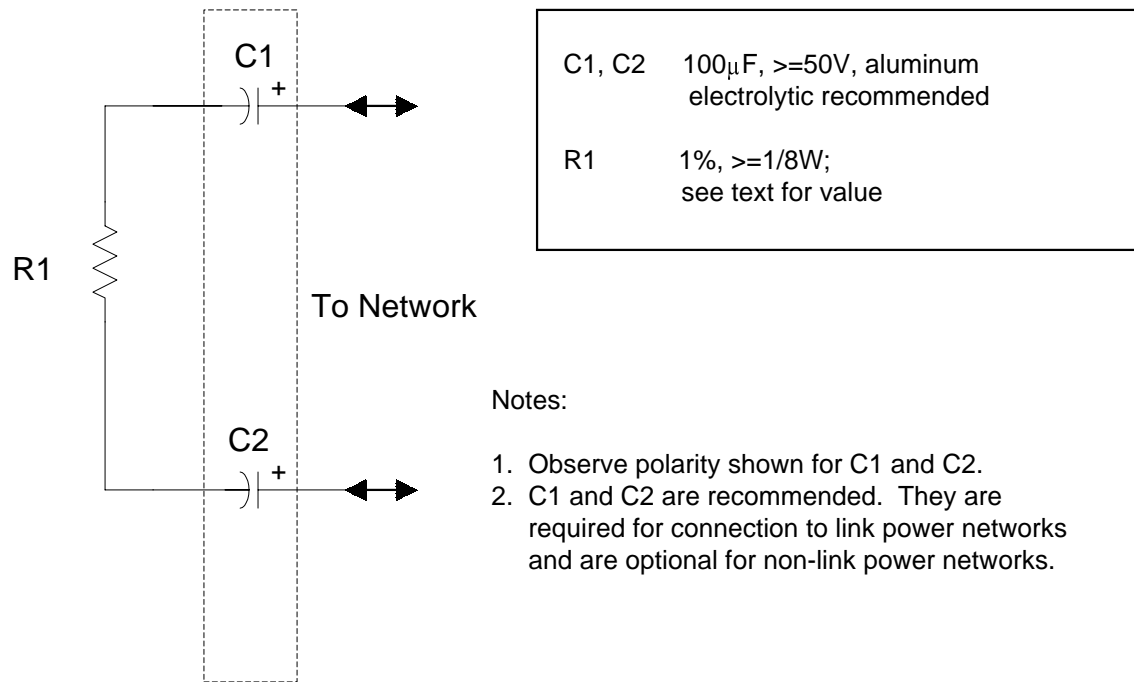

Figure 6 RC Network Termination for TP/FT-10 Segments
1. RC network (figure 6), with $R1 = 52.3 \text{ Ohms}$
1. RC network (figure 6), with $R1 = 105$ Ohms.